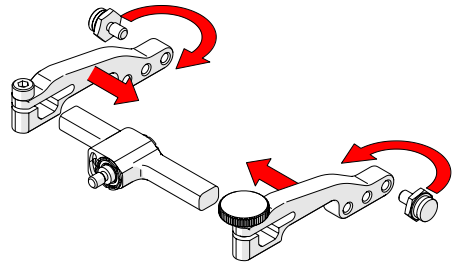

Fig. 121 - Attach arms and move buttons
4. Place the pivot buttons on the inside of the probe holder arms (Fig. 121) using a 3/8 in wrench (Fig. 2). Slide the arms onto the yoke and tighten the probe holder arm adjustment knob and the arm clamp screw.